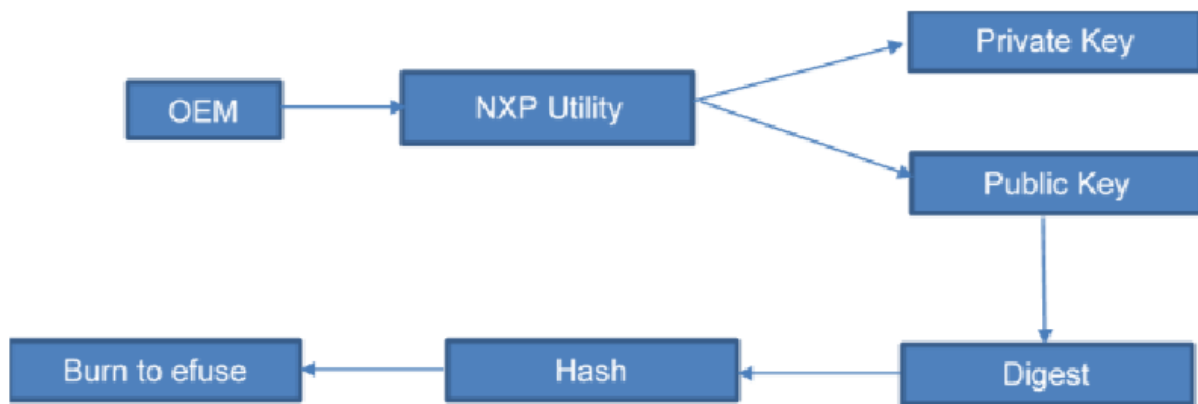
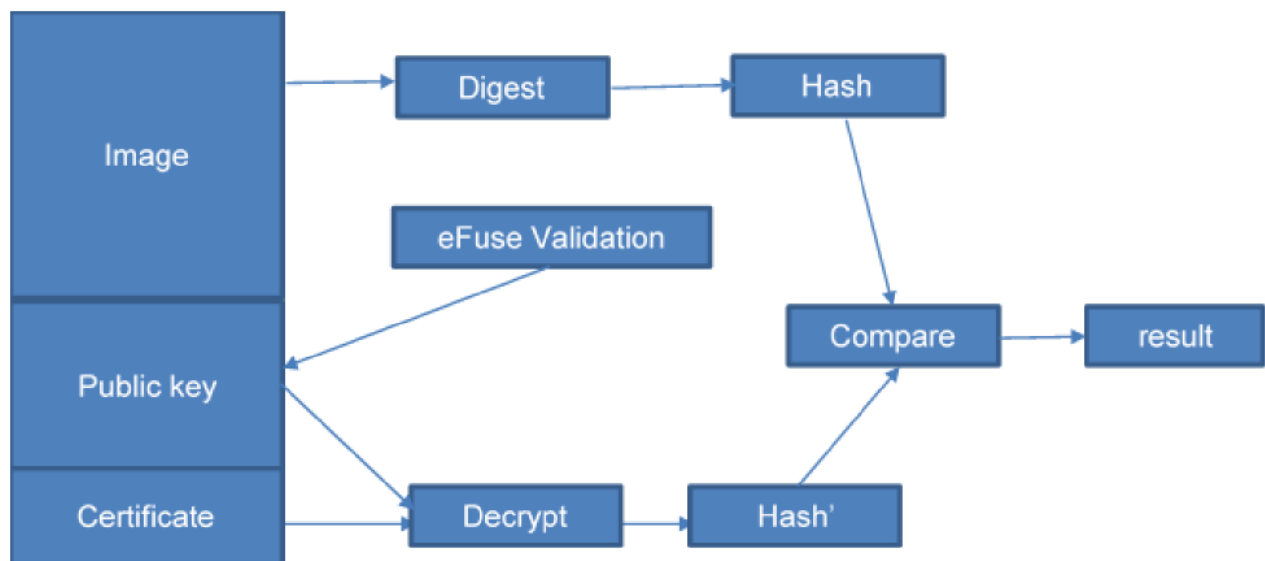

Figure 1. Generation of public/private key
Figure 3. Authenticate process (run time)
*Figure 1* to *Figure 3* give briefer descriptions.